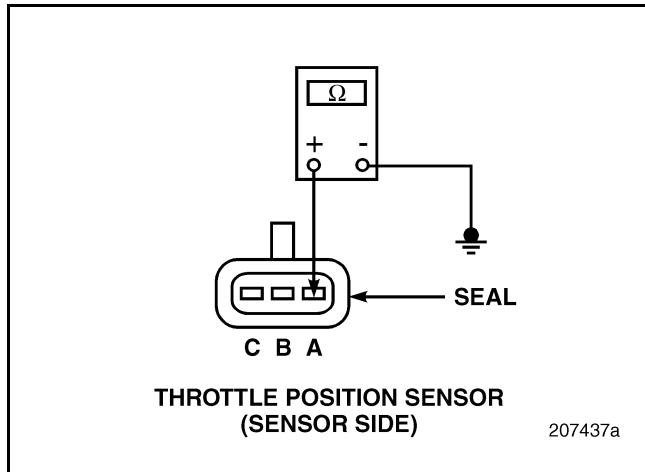

Figure 567
2. Disconnect the harness connector from the Throttle Position (TP) Sensor.
3. Check for continuity between TP Sensor pin A and a good ground (see Figure 567). If there is NO continuity, go to test “Test 22 — Checking the VECU Connector” on page 438.